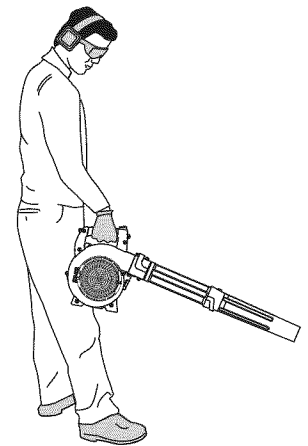

Fig. 15
**WARNING:** After starting the unit, always stand on the left side of the unit to operate it as shown in figure 15 to keep from blocking the air intake.
- **Hold the blower with the right hand.** Do not stand on the right side of the blower when operating the unit (Fig. 14). If you do, you will be blocking the air intake and this will affect the unit's performance. Instead, be sure to stand on the left side of the unit to maximize the unit's efficiency (Fig. 15).